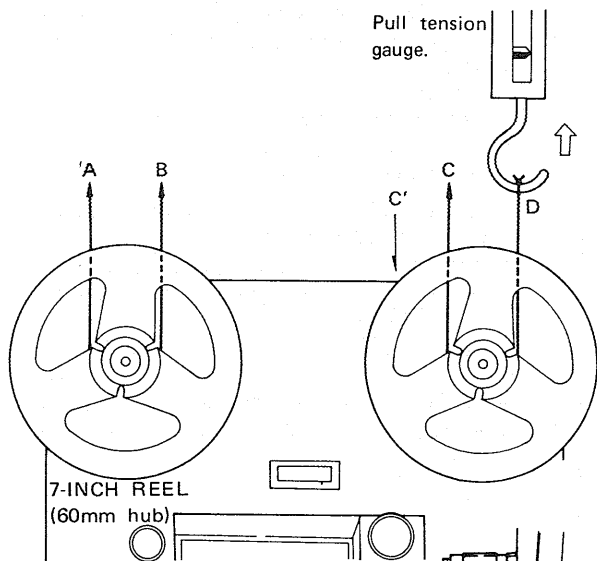

Fig. 20
#### ● Back Tension Torque at Playback (Figs. 20, 21)
2. Set tape deck in vertical position in playback mode at 7-1/2 ips (19cm/s). Measure back tension of supply reel base by pulling tension gauge in B direction as shown in Fig. 20.
#### ● Take-up Torque at Playback (Figs. 20, 21)
2. Set tape deck in vertical position and in playback mode at 7-1/2 ips (19cm/s). Measure take-up torque of take-up reel base (While moving tension gauge slowly in C' direction as shown in Fig.20, read value of the gauge.)
#### ● Back Tension Torque at Fast Forward (Figs. 20, 21)
1. Set tape deck in vertical position in fast forward mode. Measure back tension of supply reel base (pull in B direction as shown in Fig. 20).